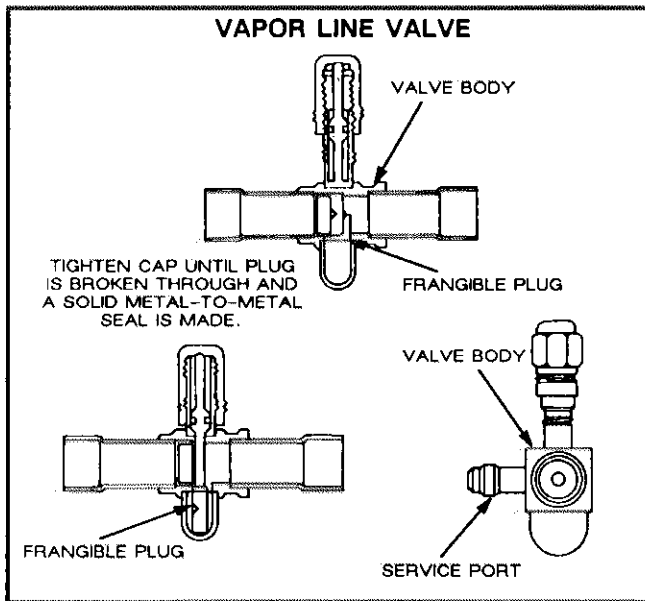

FIGURE 7
- 4- To open vapor valve, tighten the opening cap (longest) until it hits bottom [nut will be within 1/8 inch (3mm) or less of the body]. Tighten an additional 1/4 turn to make the metal to metal seal. Refer to figure 7.